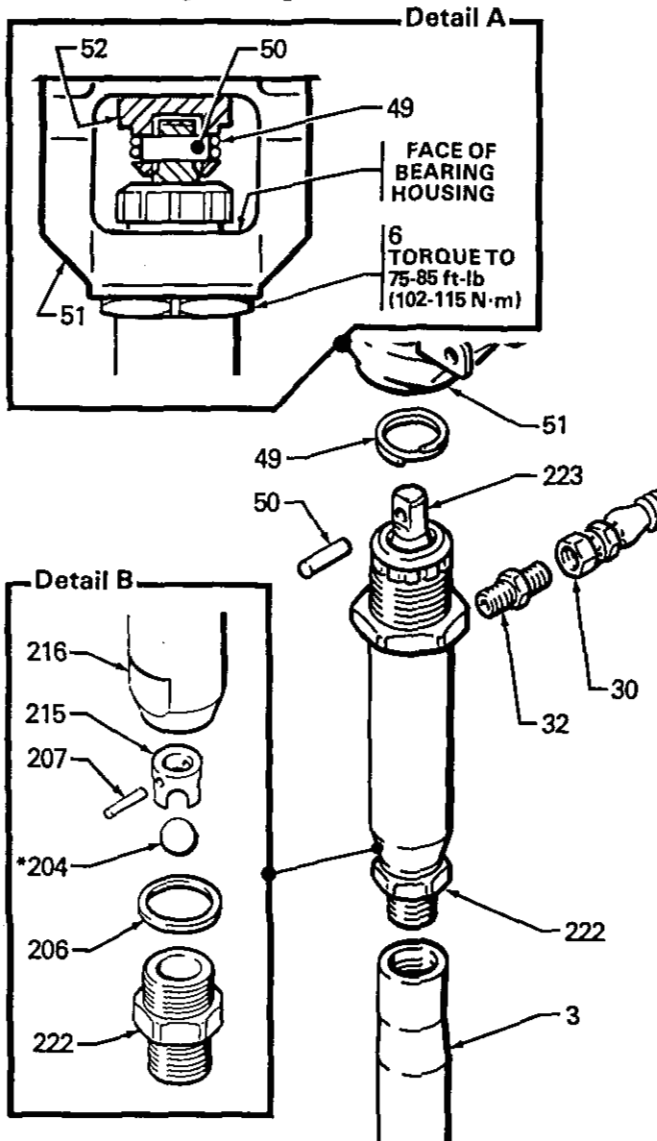
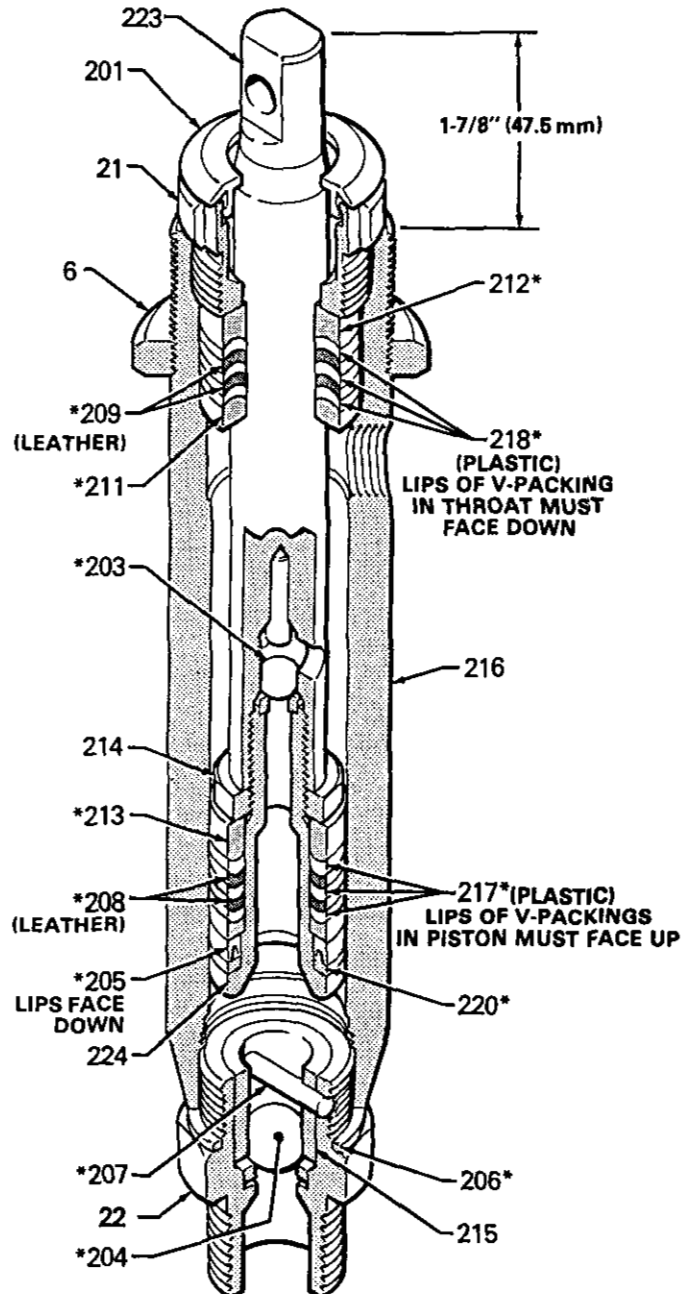

Fig 10
Fig 11
### Removing the Pump (Refer to Fig 10)
### Disassembling the Pump (Refer to Figures 10 and 11)
- B. Alternate leather and plastic packings as shown in Fig 11. The lips of the *throat V-packings face down*, against pressure, and the lips of the *piston V-packings face up*, against pressure. The lips of the U-cup wiper (205), *face down*. Incorrect installation damages the packings and results in the pump leaking.
7. *Without changing the tightness of the nut against the packings*, tighten the nut (214) onto the piston rod to 18 to 20 ft-lbs (24 to 27 N·m). If the pen mark on the packings loses alignment, back the nut off and try again.
8. Stack the male gland (211\*), packings (218\*, 209\*) and female gland (212\*), one at a time, into the top of the cylinder. See Fig 11.
9. Install the packing nut (221) and plug (201), but leave loose for now.
10. Insert the piston rod (223) through the *bottom* of the pump cylinder. Push the rod up until it extends 1-7/8 in. (47.5 mm) beyond the top of the cylinder. See Fig 11.
11. Screw down the cylinder locknut (6) until it is finger tight at the bottom of the external cylinder threads.
12. Place flats of the intake valve in a vise. Install a new gasket (206\*) and screw the pump cylinder into the valve. See Fig 10.
13. Screw the displacement pump about 3/4 of the way into the bearing housing (51). Hold the pin (50) up to the pin hole in the connecting rod assembly (52) and continue screwing in the pump until the pin slides easily into the hole. Back off the pump until the top threads of the pump cylinder are flush with the face of the bearing housing and the outlet nipple (32) is straight back. Push the retaining spring (49) into the groove all the way around the connecting rod. Tighten the locknut (6) very tight—about 75-85 ft-lb (102-115 N·m)—with a 2 in. open-end wrench and a light hammer. See Fig 10, Detail A.
Be sure the retaining spring (49) is firmly in the groove of the connecting rod, *all the way around*, to prevent it from working loose due to vibration. See Fig 10, Detail A.
If the locknut (6) loosens during operation, the threads of the bearing housing (51) will be permanently damaged. Be sure to tighten the locknut firmly. See Fig 10, Detail A.
14. Tighten the packing nut (221) just enough to stop leakage, but no tighter. Fill the wet-cup/packing nut 1/3 full with Throat Seal Liquid.